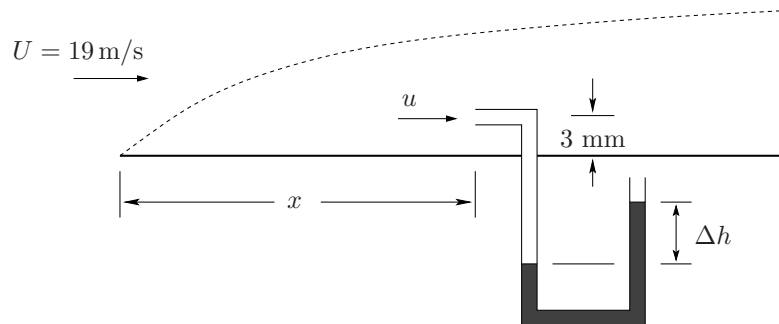

Figure 2: Flow past a flat plate.
- (d) (19 pts) Air at 60°C and 1 atm ($\rho_{air} = 1.06 \text{ kg/m}^3$, $\nu_{air} = 1.86 \times 10^{-5} \text{ m}^2/\text{s}$) flows at 19 m/s past the flat plate as shown in Figure 2. A Pitot tube, placed 3 mm from the wall, develops a manometer height $\Delta h = 10 \text{ mm}$ of Glycerine, $\rho_G = 1260 \text{ kg/m}^3$.